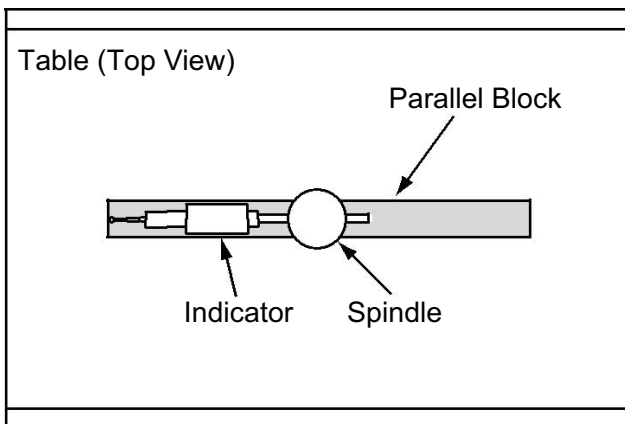

Figure 39. Setup for the X-axis adjustment.
- Place the parallel block directly under spindle and indicator across length of table, as illustrated in **Figure 39**.
- Rotate spindle by hand so that the indicator point rests on one end of parallel block, as illustrated in **Figure 39**, then zero dial.